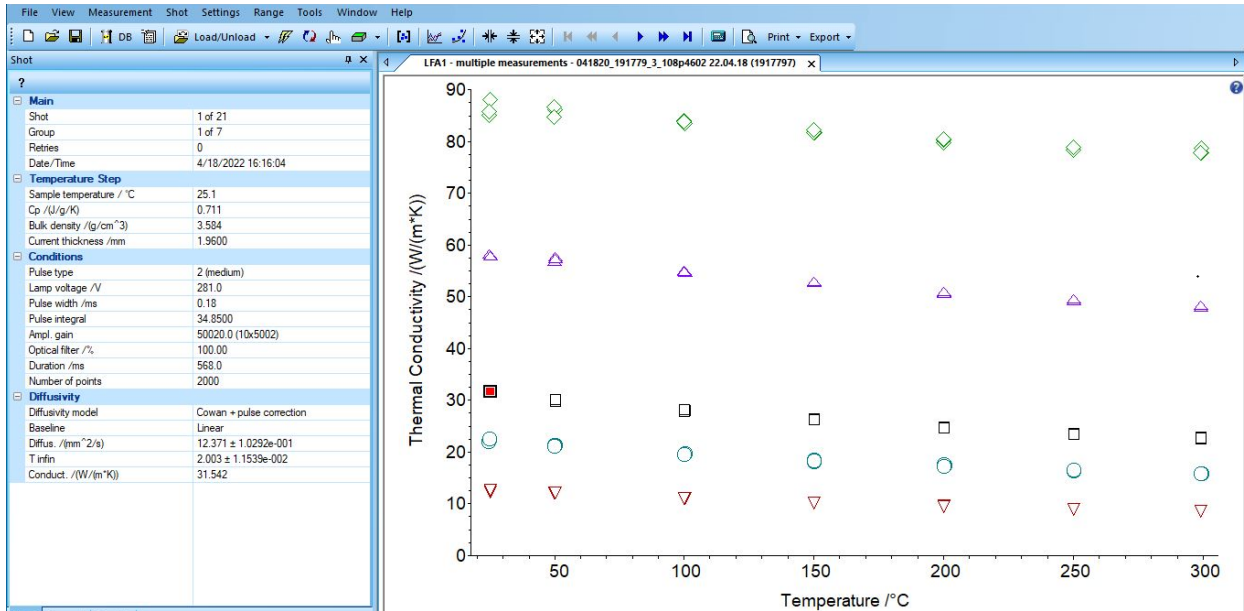

Figure 44. Thermal conductivity graph of each sample loaded in the database.
- The thermal conductivity of each sample loaded will be populated (as shown in Figure 44).